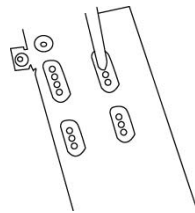

Figure 5
3.1) Mount the FDD on the 3rd (for hidden panel) hole of the 3.5" bracket. Screw in the HDD. (See Figure 5,6)